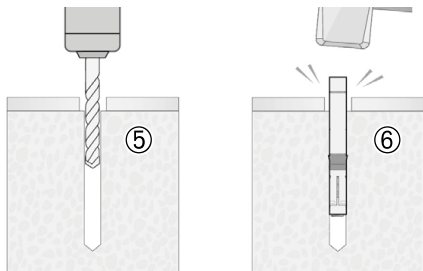

Fig. 3.17 - drill two holes and embed the two expansion bolts
- Dismantle the brackets on both sides. Aligning the central points, drill two holes ($\geq 60\text{mm}$ depth) in the wall with a drilling tool, and clean the holes (5, Fig. 3.17).
- Embed the two M8 expansion bolts into the holes respectively (6, Fig. 3.17).